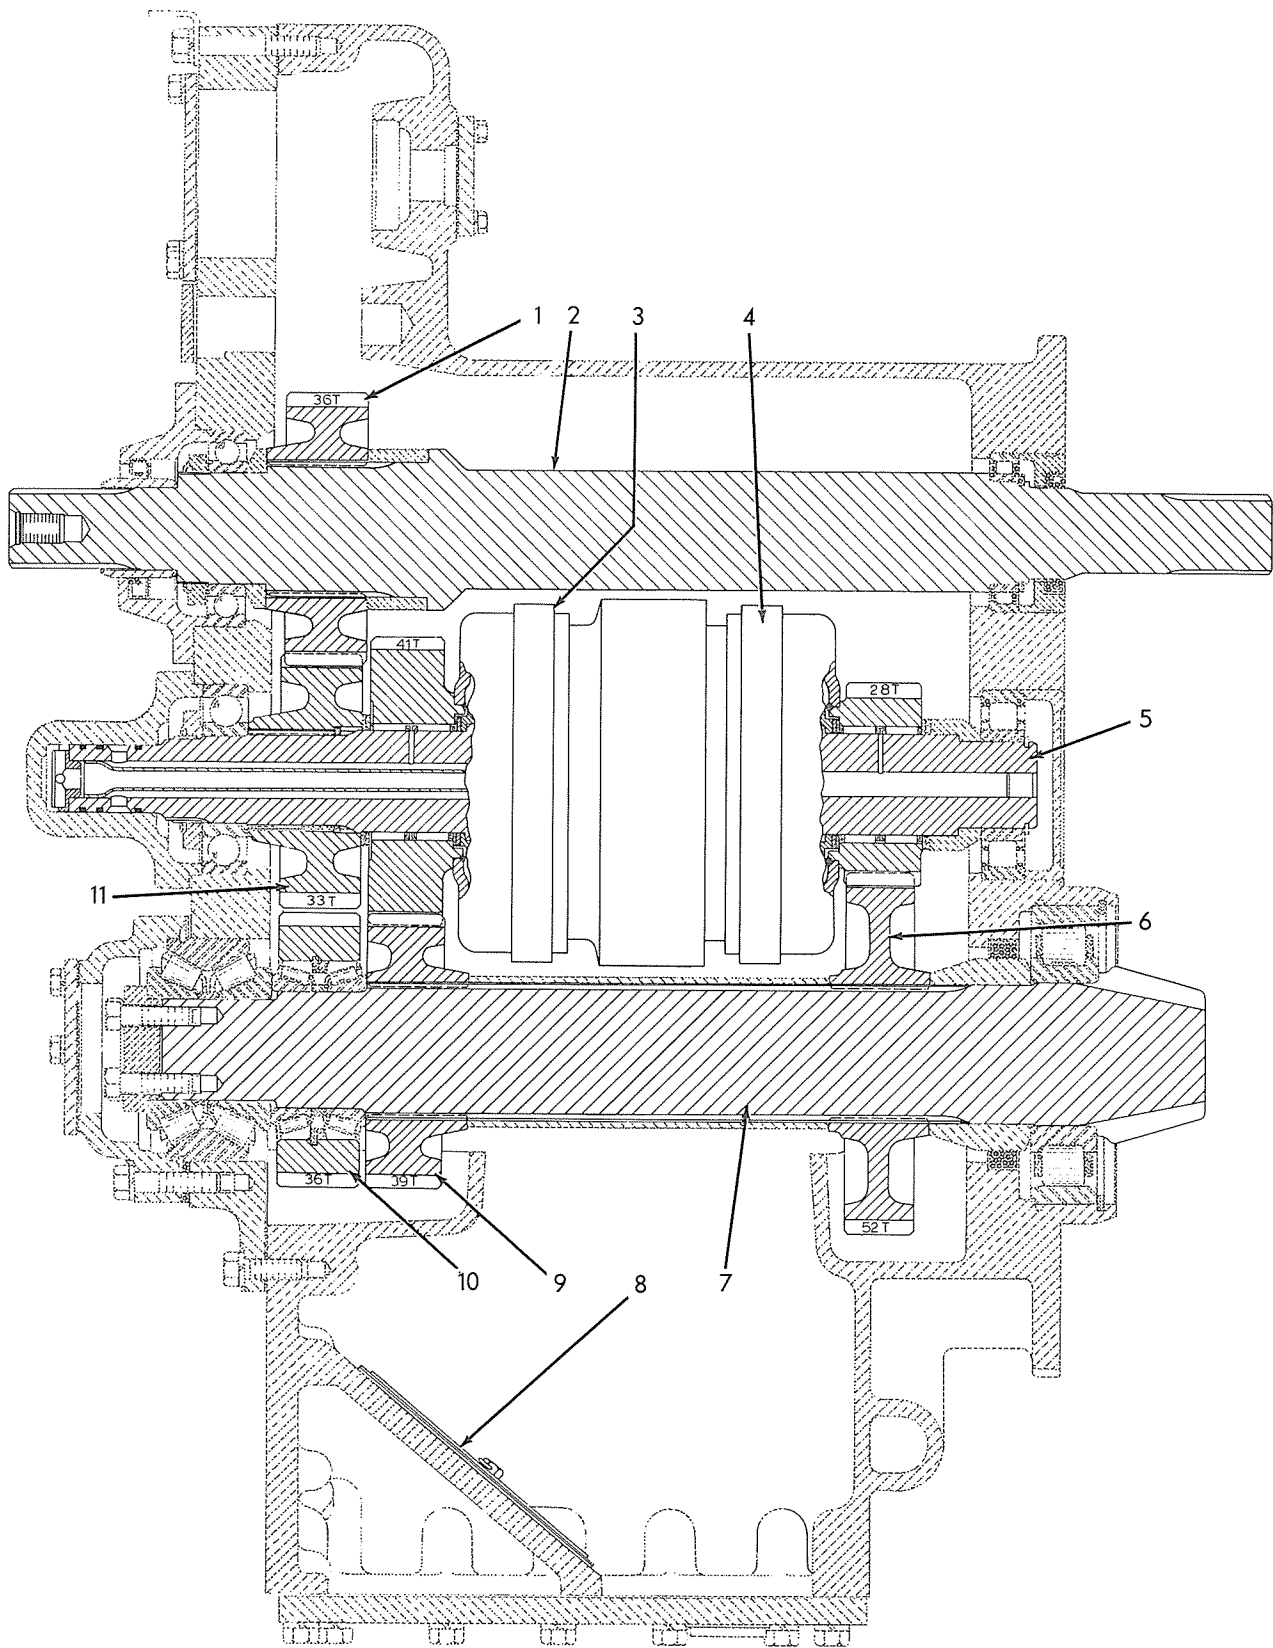
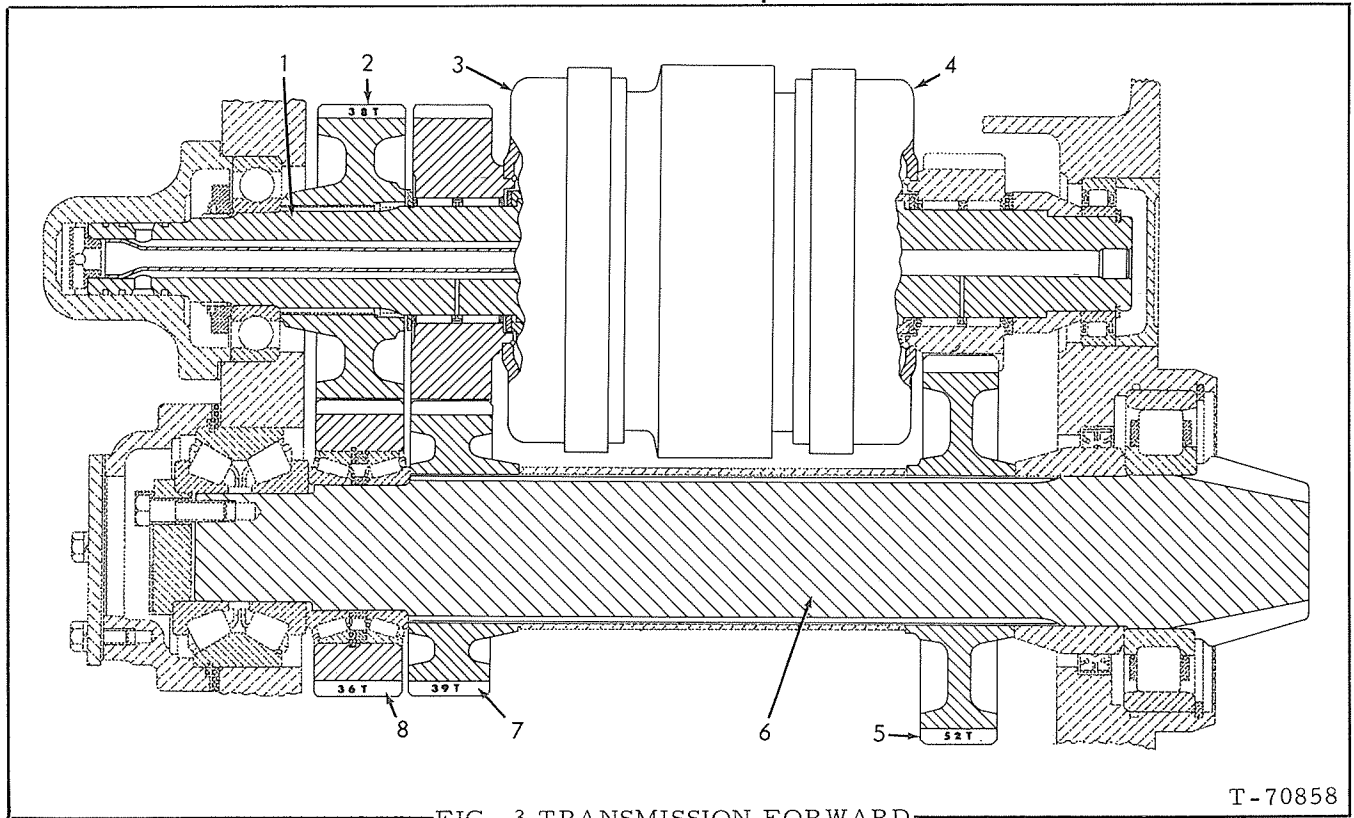

FIG. 2 TRANSMISSION REVERSE RANGE GEAR TRAIN
FIG. 3 TRANSMISSION FORWARD
### LEGEND FOR FIG. 2
Transmission, Figs. 2 and 3, is constant mesh, with front and rear gear trains. Two power shift hydraulic clutch assemblies provide smooth high speed shifts. Each clutch assembly is actually two clutches on one shaft; right shaft (viewed from rear) carries forward clutches and gears; left shaft carries reverse clutches and gears. Clutches are hydraulically applied and spring released.
With engine running, power flow from the engine is transmitted through the torque converter to the transmission input shaft, Fig. 2 (2). The input shaft gear is in mesh with the front gear (11) on left shaft (5), and drives the left shaft clockwise. The input shaft gear is also in mesh with the idler gear (10) on front end of bevel pinion shaft (7); idler gear is in mesh with the front gear Fig. 3 (2) on transmission right shaft (1), and drives the right shaft counterclockwise.
When tractor is operating in 1st forward the rear clutch on forward clutch shaft is engaged. The respective clutch drum and gear, Fig. 3 (4) drives the low speed gear on bevel pinion shaft; this gear in turn drives the bevel pinion. When tractor is operating in 2nd forward, the front clutch on forward clutch shaft is engaged. The respective clutch drum and gear, Fig. 3 (3) drives the high speed gear on bevel pinion shaft; this gear in turn drives the bevel pinion. When tractor is operating in 1st reverse, the rear clutch on reverse clutch shaft is engaged.
The respective clutch drum and gear, Fig. 2 (4) drives the low speed gear on bevel pinion shaft; this gear in turn drives the bevel pinion. When tractor is operating in 2nd reverse, the front clutch on reverse clutch shaft is engaged. The respective clutch drum and gear, Fig. 2 (3) drives the high speed gear on bevel pinion shaft; this gear in turn drives the bevel pinion.